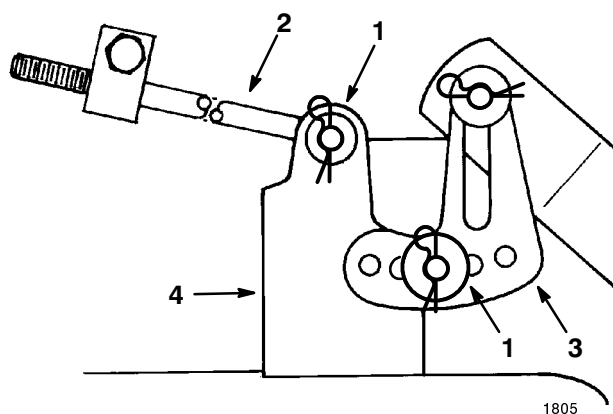

Figure 46
7. Slide the end of the long rod through the hole in the mower mount (Fig. 46). Install the washer and hairpin cotter to secure the rod in place. Repeat this step on the opposite side of the mower.
8. Mount the slotted mower leveling bracket onto the pin on the height-of-cut arm (Fig. 46). Install the washer and hairpin cotter to secure the mower. Repeat this step on the opposite side of the mower.